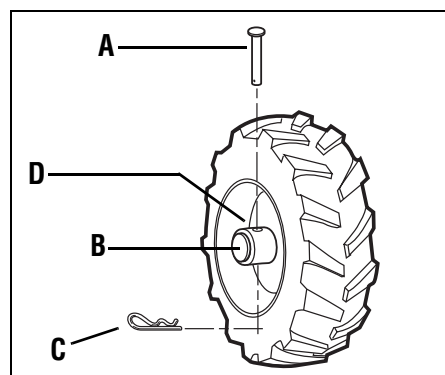

Figure 3-2: WHEEL DRIVE position.
Each wheel is equipped with a wheel drive pin (A, Figures 3-2 and 3-3) that secures the wheel to the wheel shaft (B). The wheels can be positioned in either a WHEEL DRIVE or a FREEWHEEL mode.
3. Remove hairpin cotter (C, Figures 3-2 and 3-3) from wheel drive pin (A).
4. FOR WHEEL DRIVE MODE (Figure 3-2): Slide wheel outward and align holes in
wheel hub (D, Figure 3-2) and wheel shaft (B). Insert wheel drive pin (A) through wheel hub (D) and wheel shaft (B). Secure wheel drive pin with hairpin cotter (C) by pushing hairpin cotter in as far as it will go. Repeat with the other wheel and then remove the support from beneath the transmission.